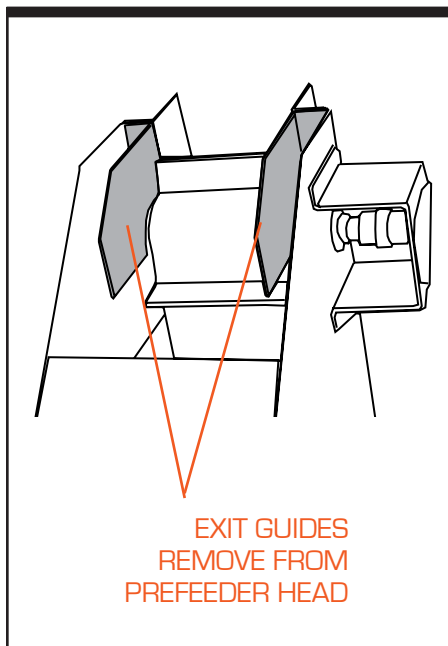
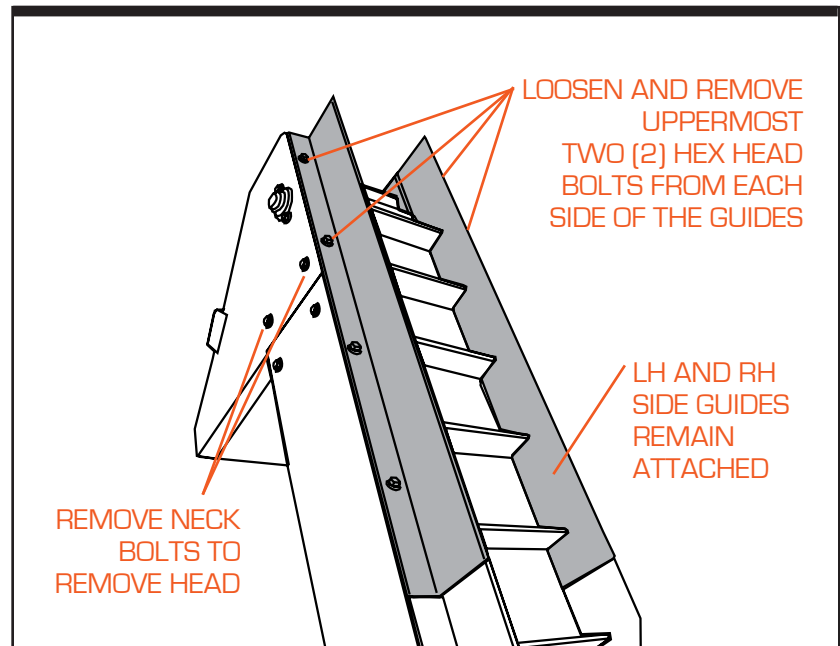

Figure 3-7. Left Hand and Right Hand Exit Guides
Figure 3-8. Side Guides - Remove Hardware
Step 4—Remove Prefeeder Head. Remove the side guide bolts on the prefeeder head. This frees the two exit guides (left hand and right hand) which help guide the belt. Set these exit guides (see Figure 3-7) to the side. Remove any hardware on the side guides from the head portion of the prefeeder, and set aside. You will not be removing the side guides on the channel, just disconnecting them. Then remove the two bolts on both sides of the prefeeder channel or neck (see Figure 3-8) and set aside.